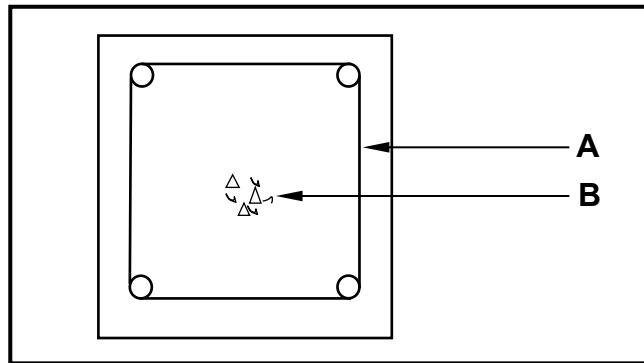

FIGURE 6.4
6.4 FIGURE 6.4 below shows a sectional view of a reinforced concrete column.